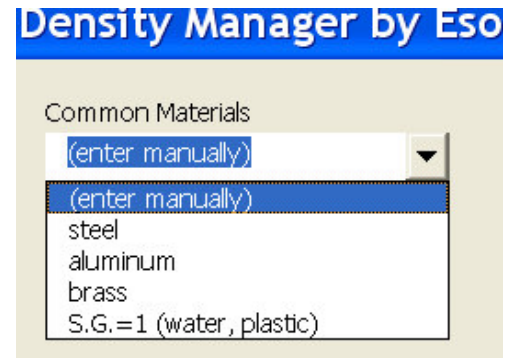

Figure 4
**Common Materials:** There is a small selection of preset common materials available (See *Figure 4*). Selecting one of the common materials automatically inserts that materials density value into the "Density" box.